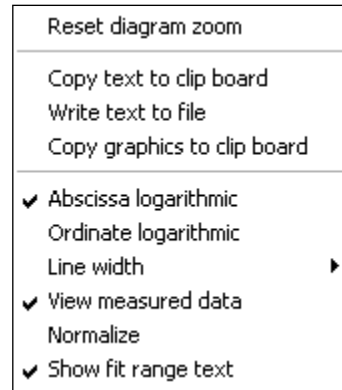
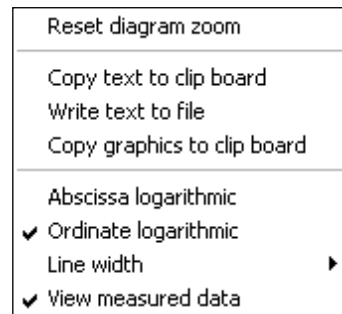

Fig. 377 Context menu of the Fit Correlation diagram
Fig. 378 Context menu of the Fit PCH diagram
- Click on the diagram with the right mouse button to open the context menu for the **Fit Correlation** (Fig. 377) respectively **Fit PCH** diagrams (Fig. 378).